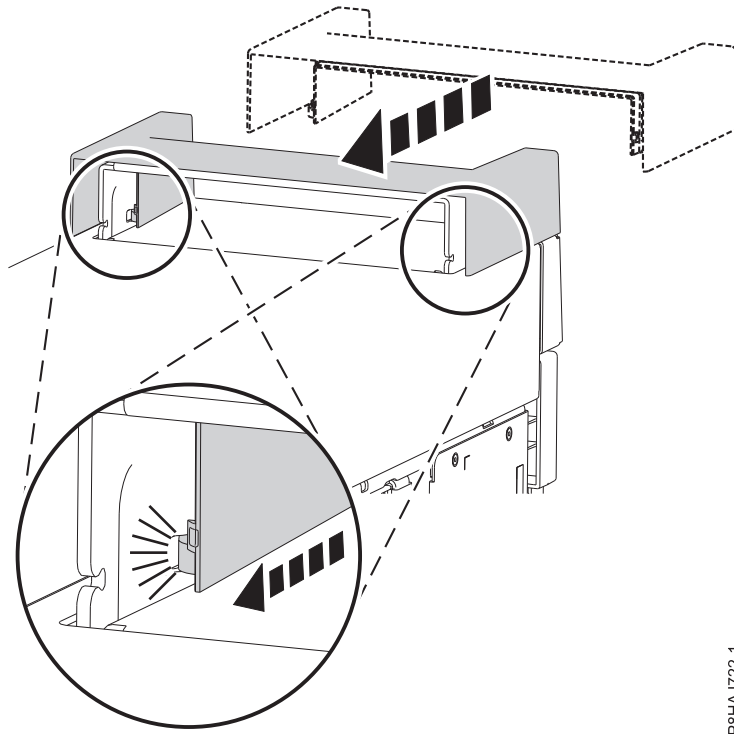

Figure 66. Securing the handle cover in an 8286-41A stand-alone system
1. Secure the handle cover to the internal RDX docking station (FC EUA3) by sliding it toward the rear of the system. See Figure 66.